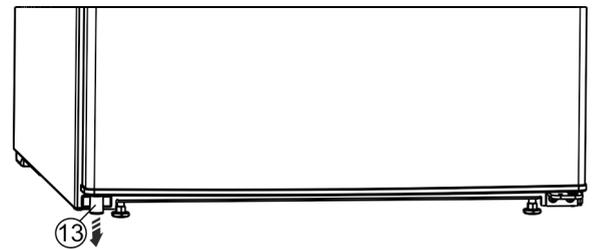

Fig. 14 *
- ▶ On the bottom left, pull out the spacer Fig. 14 (13) from the door.*